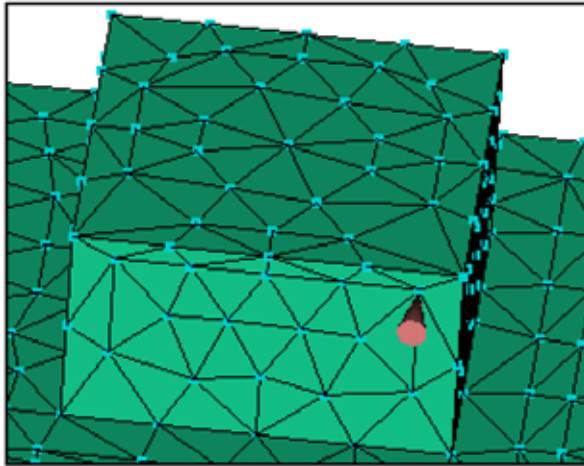

Figure 162: Gate location on the edge of the box
5. Set the injection location on the edge of the box structure as shown in Figure 162.